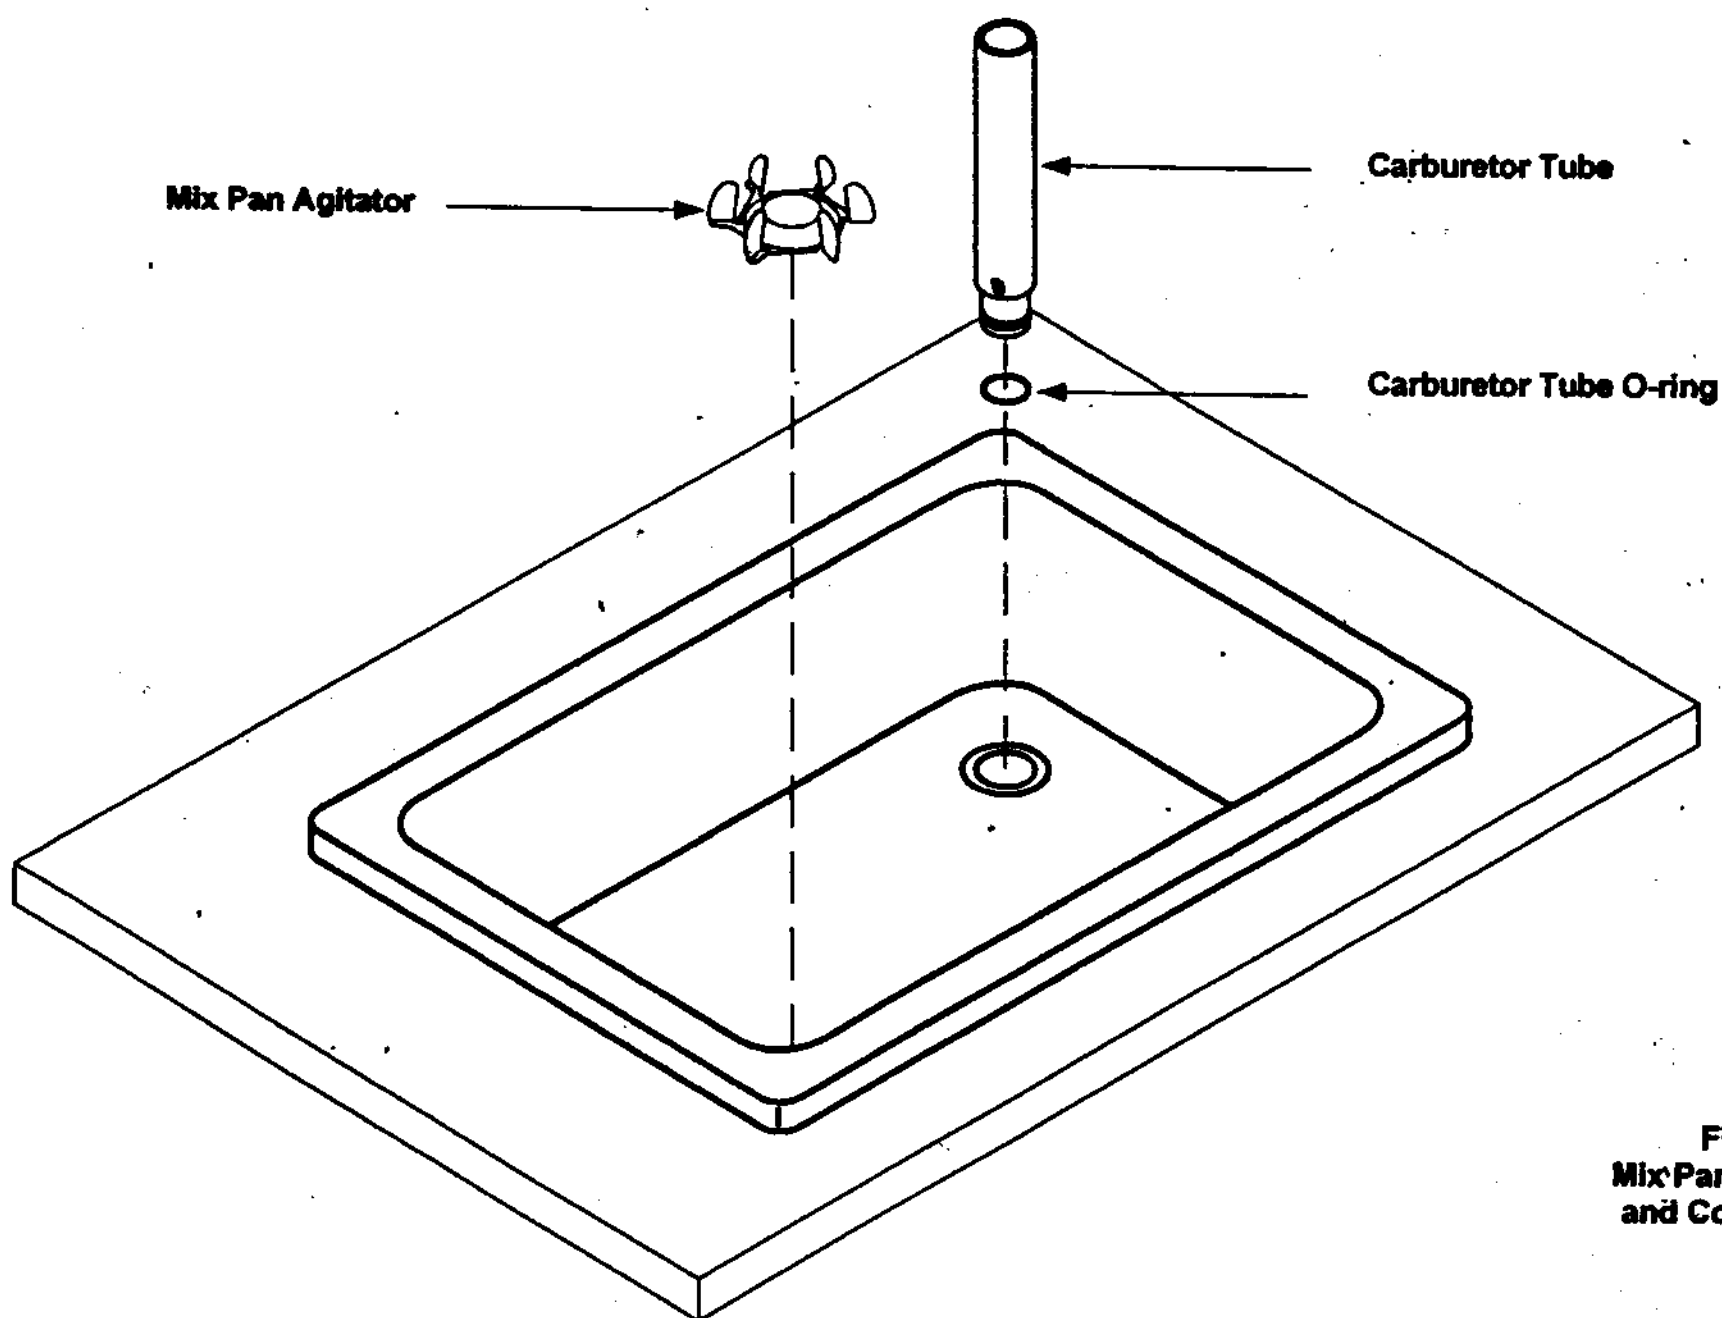

Fig. 38
3. Apply a small amount of SaniGel (p/n 1150) on the bottom of the mix pan agitator. On countertop models place the lubricated mix pan agitator in the right front corner of the mix pan as you face the machine front. On floor models place the lubricated mix pan agitator in the right rear corner of the mix pan. Position the agitator until you feel the magnets of the agitator engage the magnets of the drive system beneath the mix pan - see Fig. 38.